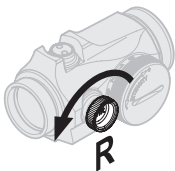

Fig. 4 Windage adjustments
e. Windage adjustments (See Fig. 4)
- To move the point of impact to the right, turn Windage adjustment screw (5) counter clockwise.
- To move the point of impact to the left, turn Windage adjustment screw (5) clockwise.